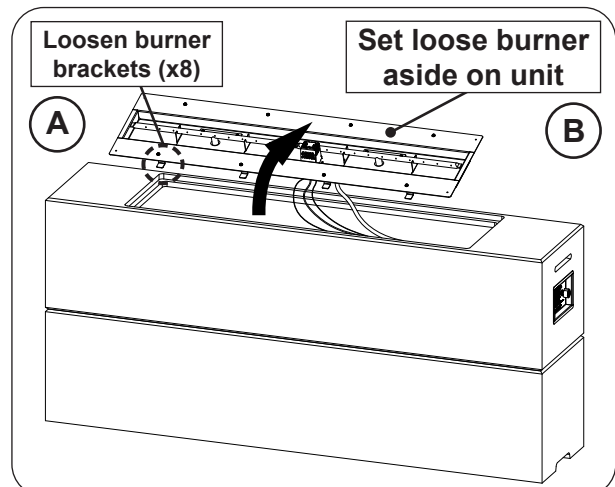

Fig. 26-3 Gain access to interior of unit
1. Use a $\frac{5}{16}$ " nut driver to loosen the 8 screws found on the burner assembly (see Fig. 26-3, A).
2. Carefully lift out the burner just enough to set it off to the side (see Fig. 26-3, B).